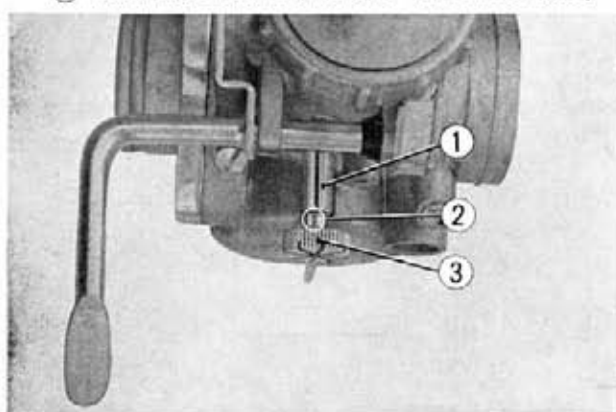

Fig. 6-13 ① Index mark ② "T" mark ③ Throttle stop screw
- c. Adjust the throttle stop screw to align the "T" mark to the index mark stamped on the carburetor body. Perform adjustments on all carburetors. (Fig. 6-13)